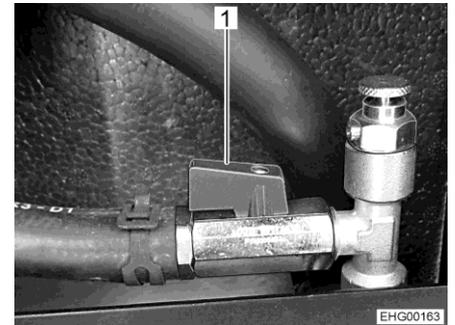

Fig. 180 Spherical valve (opened)
- Set the lever (Fig. 180,1) parallel to the pipe.